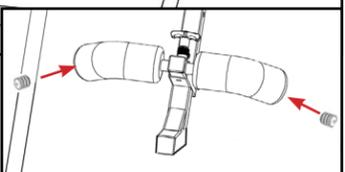

Figure 11B
- Insert the black plugs (F5-1056) into each open end of the Front Ankle Bar if they are not already assembled (Figure 11B).